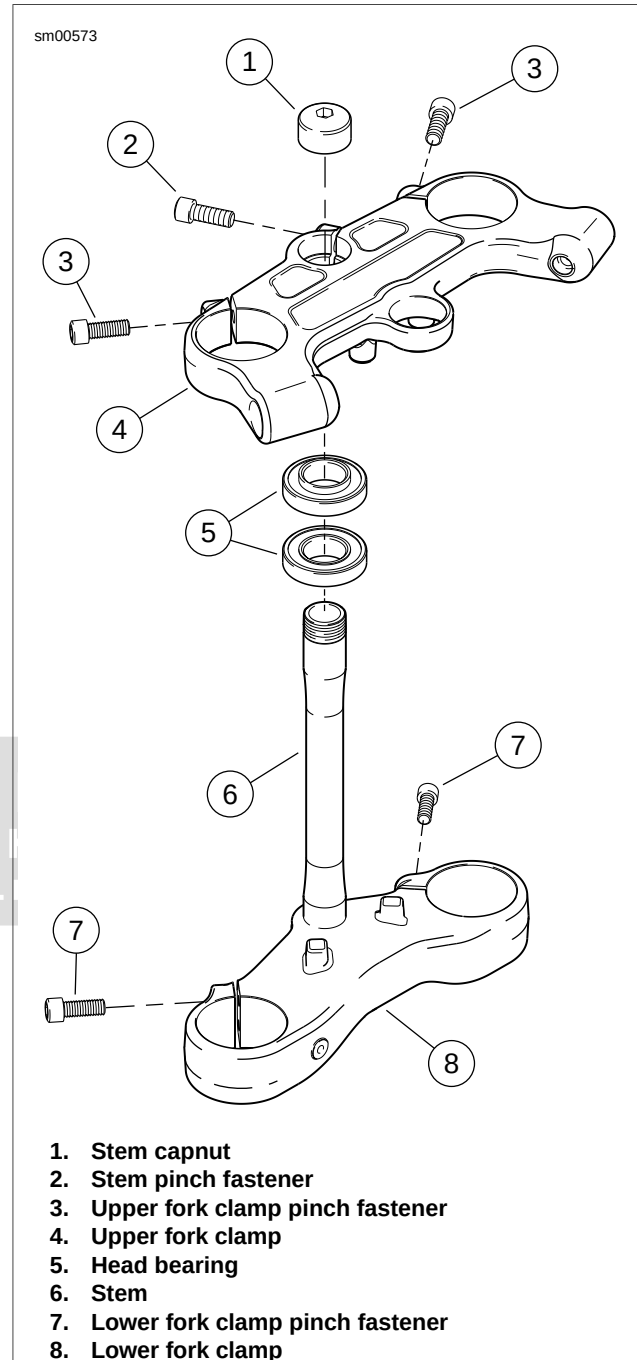

Figure 2-100. Steering Stem Assembly: Firebolt
5. See Figure 2-100. Remove steering stem pinch fastener (2).
8. See Figure 2-100. Hold or brace the lower fork clamp and remove steering stem capnut (1).
9. Remove the upper fork clamp (4).
10. Remove the stem (6) and lower fork clamp (8) as an assembly.
2. See Figure 2-100. Install the lower fork clamp (8) into the steering stem bore and install the upper fork clamp (4).
3. Install steering stem capnut (1). Thread on by hand but do not torque.